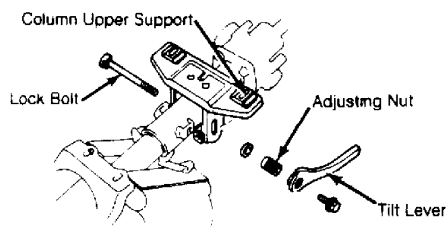

Fig. 6: Installing Upper Column Support
7) Lubricate and install tilt lever lock bolt, washer and adjusting nut. See Fig. 6. Hand tighten adjusting nut. Adjust upper column support so that lock bolt is in center of oval and that support bracket is parallel with column, as seen from the side of upper column support.